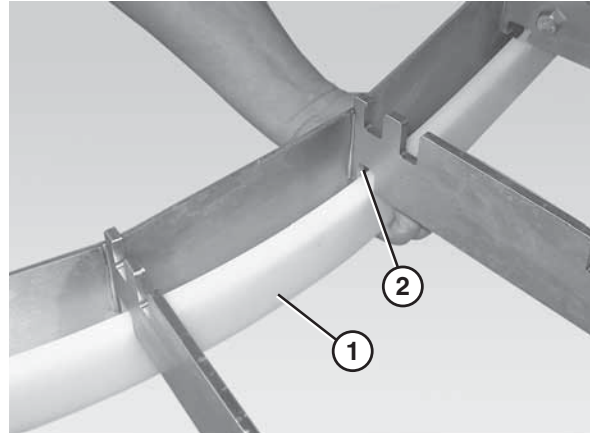

Figure 39
1. Insert the inside return bottom wear strip (Figure 39, item 1) into the slots (Figure 39, item 2) on the lower inside section of the frame (figure shown without the belt or wear strips).
2. Attach the chain return shoes (Figure 39, item 1) to the curve return shafts (Figure 39, item 2).